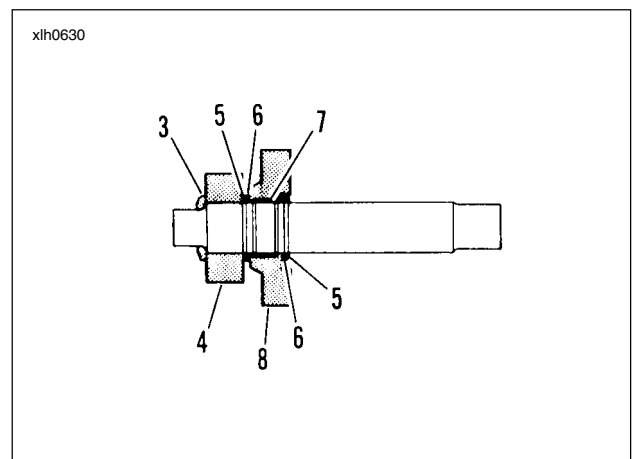

Figure 6-38.
8. See Figure 6-38. Remove beveled spacer (3) and countershaft 4th gear (4).
9. Expand retaining ring (5) located next to countershaft 1st gear (8). Remove retaining ring (5) and thrust washer (6). Slide countershaft 1st gear off end of shaft. Remove split bearing (7).
10. Remove thrust washer (6). Expand remaining retaining ring (5) and slide off shaft. This completes disassembly of countershaft.